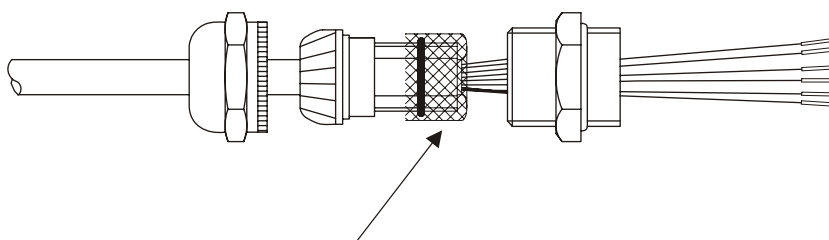

Figure 6 Cable Shield Bent over the Plastic Sleeve and O-ring
3. Enter the power and signal cables through the cable glands(s). For better protection against RF interference, ground the cable shield as shown in Figure 6 on page 17.
The WAC155 transmitter provides the line cable entry through a gland for a cable with a diameter from 7 to 10 mm. For better protection against RF interference, bend the cable shield as illustrated in Figure 6 on page 17.